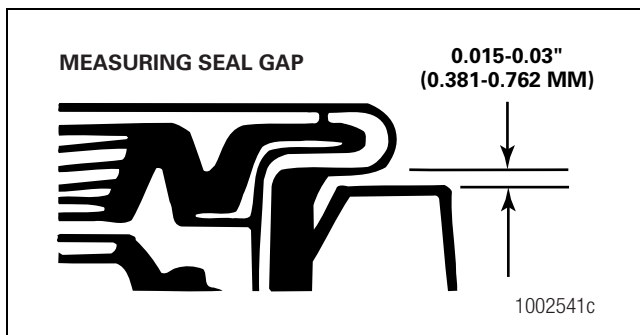

Figure 5.111
- If the gap varies more than 0.010-inch (0.254 mm) between the highest and lowest measurement: Remove and reseal the seal. Figure 5.111.